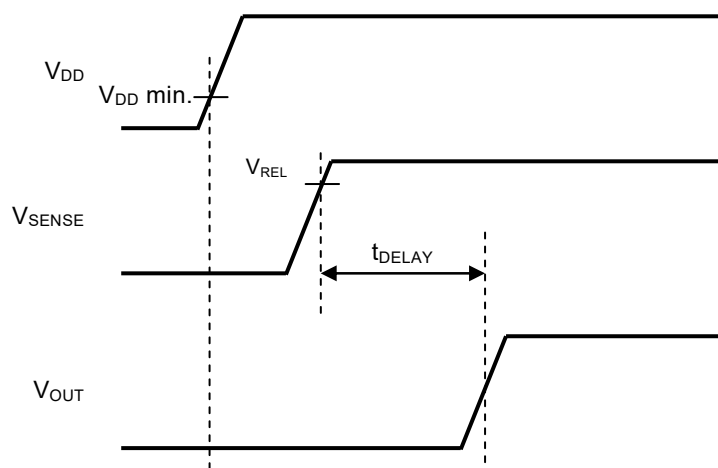

Figure 19
- (1) Order of VDD pin and SENSE pin (Refer to **Figure 19**)
- (2) VDD pin and SENSE pin at the same time